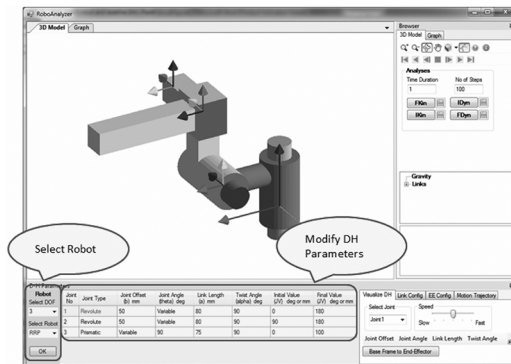

Fig. C.1 Robot-model selection and redefine the DH parameters
After selecting a robot and redefining its Denavit-Hartenberg (DH) parameters, as shown in Fig. C.1, users can visualize each DH parameter by selecting a joint and